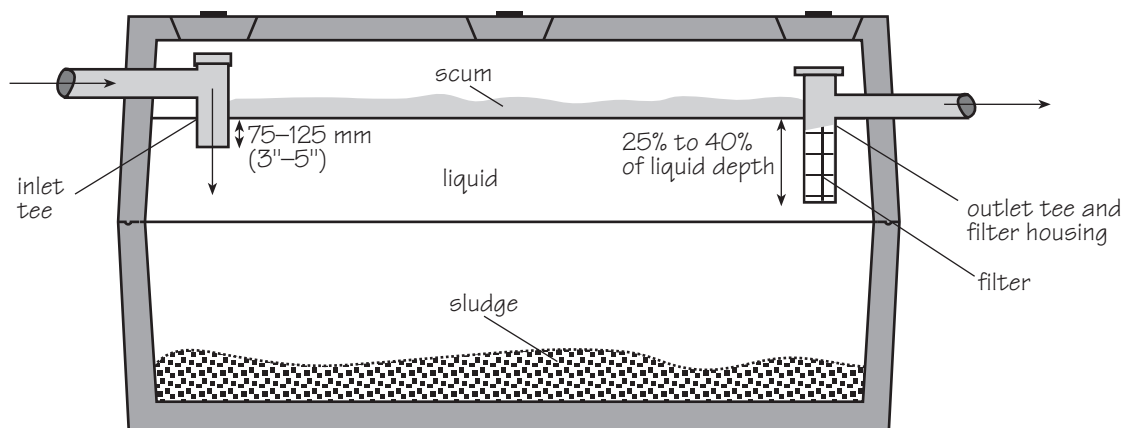

Figure 5 **Example of a Septic Tank Effluent Filter System**
- Septic tank effluent filters shown in Figure 5 are designed to intercept solids that might otherwise escape from the tank and clog the field. Filters need regular cleaning, usually when the septic tank is inspected or pumped. If they require more frequent cleaning, it is probable that the materials that blocked the filters would have reached the disposal field, causing potentially serious and expensive damage.